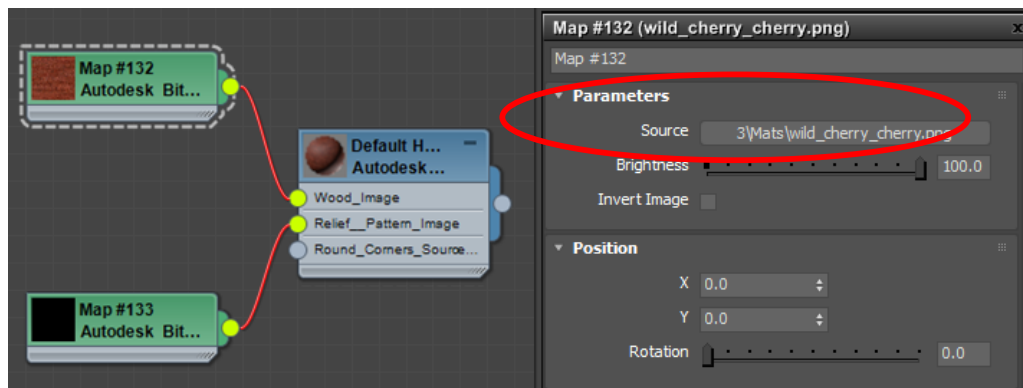

FIGURE 31: TO LOCATE THE SOURCE OF THE MATERIAL
- b. Click the material that you wished to export to Unity and locate the source. (See Figure 31)